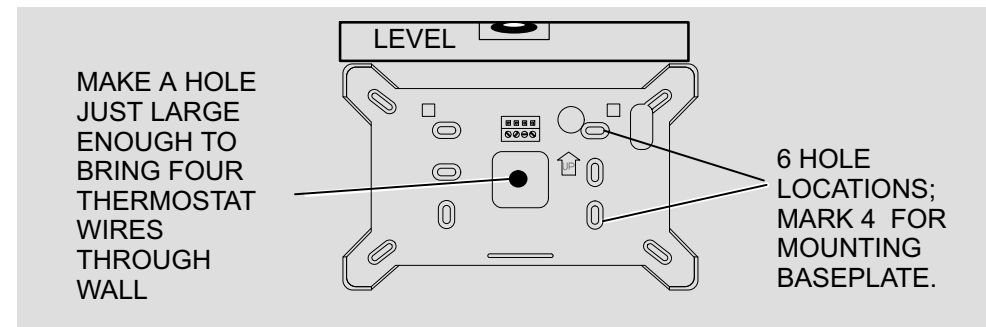

Figure 1. Hole locations
3. Install thermostat using wall mounting instructions (figures 1 through 4).
- A.** Use a level to align the thermostat baseplate against the wall where the thermostat will be installed (see figure 1). Mark an appropriate hole location on the wall for routing the wires and mark (4) mounting holes at the same time.